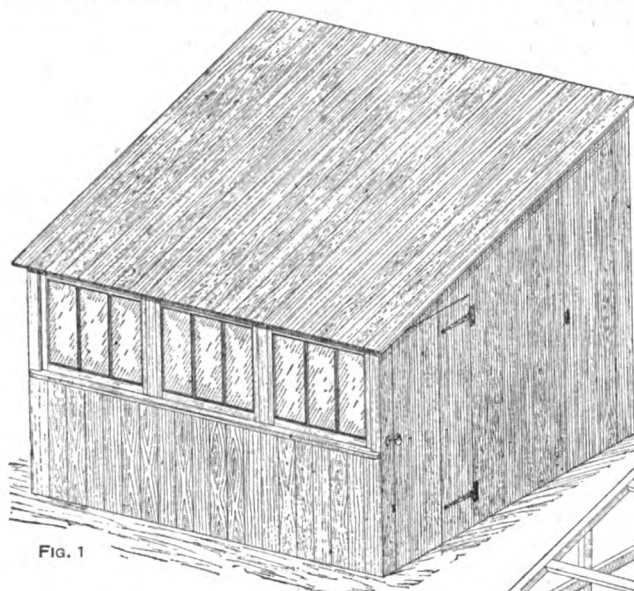

FIG. 1
**Map Corners and North Points.**—Figs. 1 to 4 show some north points. Map corners, which may be made
**Sectional Lean-to Building.**—Fig. 1 shows a sectional lean-to building 10 ft. long, 8 ft. wide, height at back 9 ft. 6 in., height at front 6 ft. 6 in. Fig. 2 shows the complete skeleton framework, the joints of which are all of a simple character, principally halving and lapping. On looking at Fig. 2 it will be seen that the front, ends, roof, and back form independent pieces of framing, to which the
**Hoarding for Bill Posting.**—Fig. 1 shows a back view of a bill posting hoarding 16 ft. high and 20 ft. wide, properly supported with stays at the back. Fig. 2 is a side view. The main framing is formed of four posts of 5-in. by 3-in. stuff, and the head is of 5-in. by 3-in. stuff also. The best plan will be to mortise and tenon these parts together as shown by the section at A (Fig. 3),